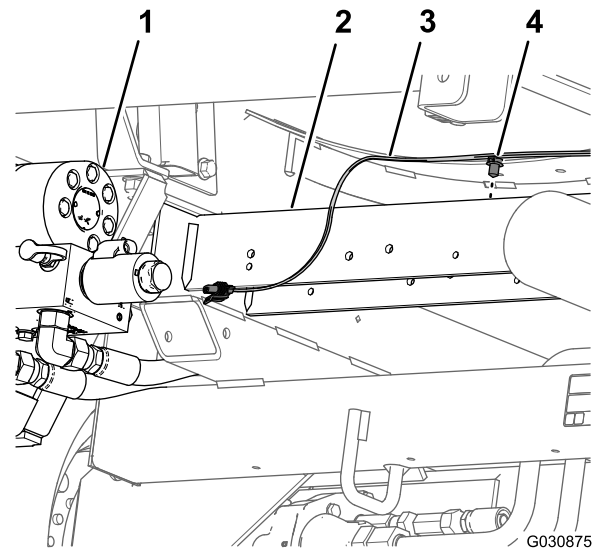

Figure 26
6. Remove the push-in fastener that secures the rear wire harness (Figure 26) to the holes in the rear cross tube (rearward of the hydraulic-traction motors).